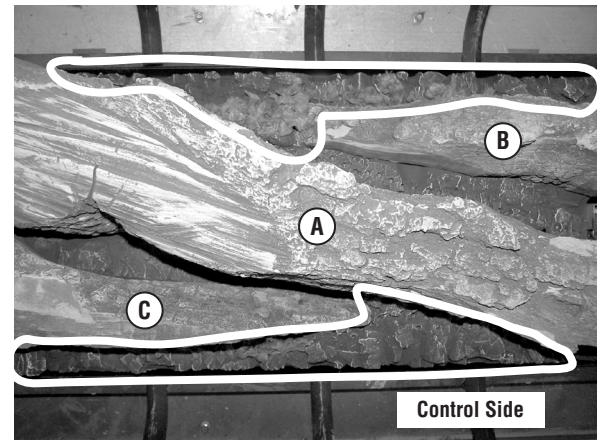

Figure 40: Placement of Glowing Ember Pieces
- b) Distribute the dime-sized pieces over the surface of the burner, in the areas shown in **Figures 40 and 41**.